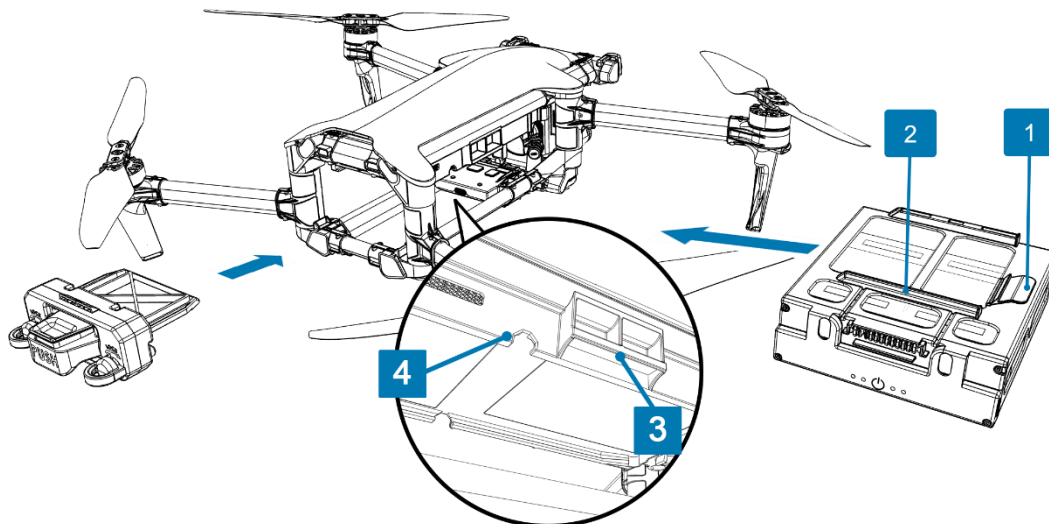

Figure 16: ANAFI UKR XLR battery insertion
2. Position the battery's slide rail, located on the top face of the battery (No. 2 in Figure 16), into the drone's corresponding slide groove (No. 4 in Figure 16).
4. Ensure that the latch (No. 1 in Figure 16) is correctly seated in the latch receptor (No. 3 in Figure 16).